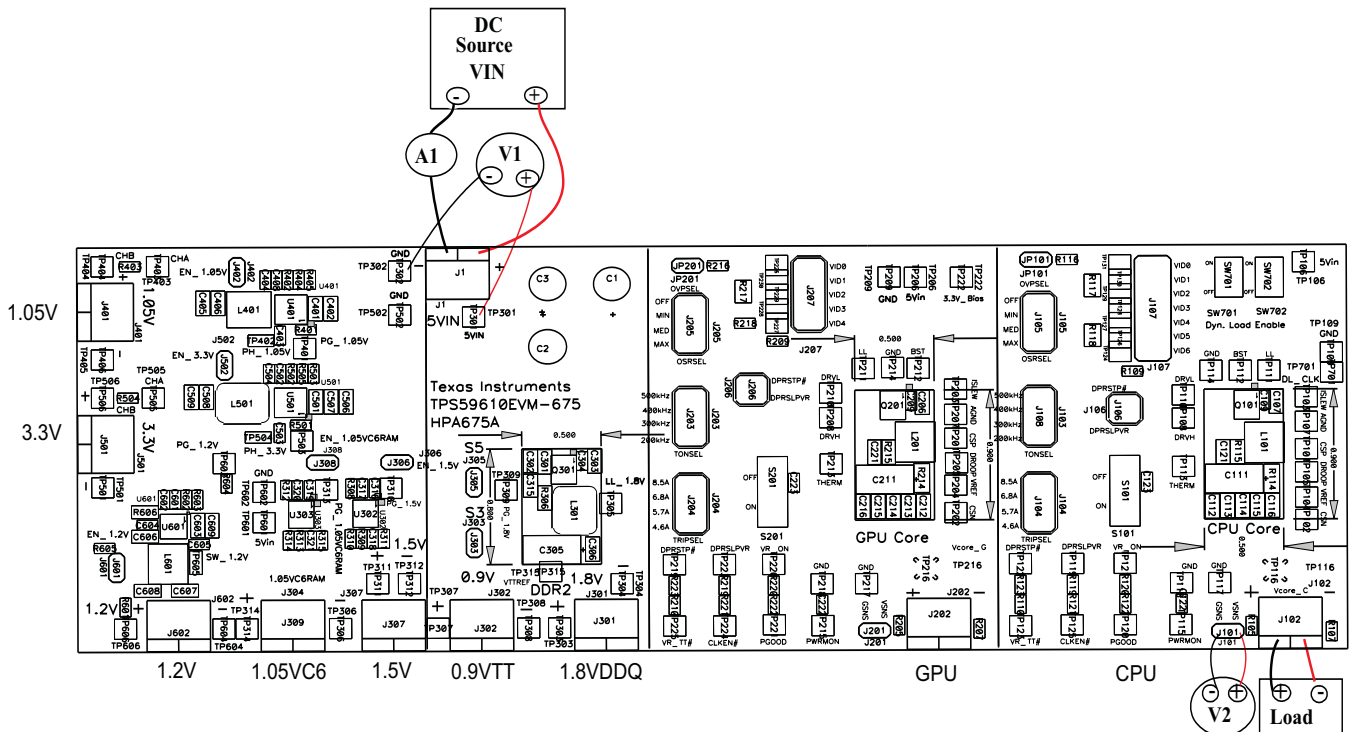

Figure 7. TPS59610EVM-675 Recommended Test Setup
Voltage Source VIN: The input voltage source VIN must be a 0-V to 5.5-V variable dc source capable of supplying 10 Adc. Connect VIN to J1 as shown in Figure 7.
Figure 7 is the recommended test setup to evaluate the TPS59610EVM-675. Working at an ESD workstation, ensure that any wrist straps, bootstraps, or mats are connected referencing the user to earth ground before handling the EVM.
1. Prior to connecting the dc input source VIN, it is advisable to limit the source current from VIN to 10 A maximum. Ensure that VIN is initially set to 0 V and connected as shown in Figure 7.
2. Connect a voltmeter V2 at J101 to measure CPU 1-Vcore voltage as shown in Figure 7.